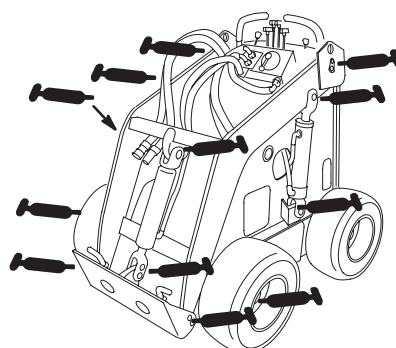

Figure 18
3. Connect a grease gun to each fitting (Fig 18 and 17).